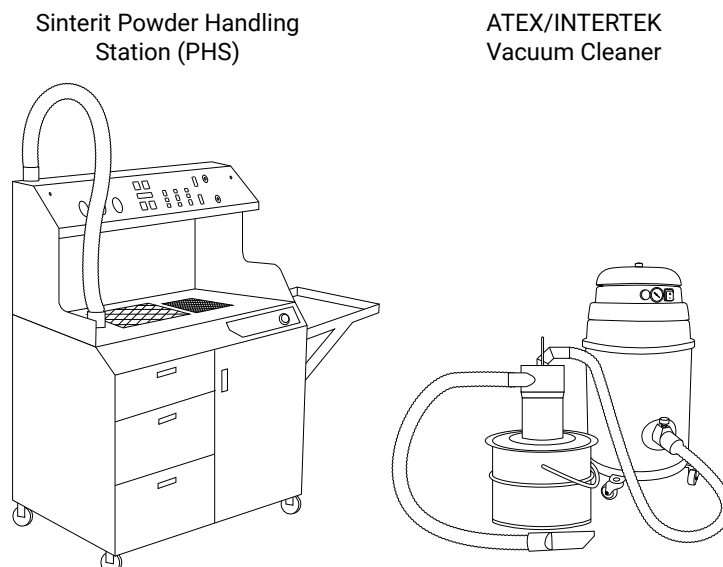

Fig. 9.1 Dedicated Sinterit solutions for cleaning the printer.
3. For cleaning the printer Sinterit recommends dedicated solutions: the PHS (Powder Handling Station) with a specialized vacuum (ATEX/INTERTEK Vacuum Cleaner) or the vacuum by itself (fig. 9.1).